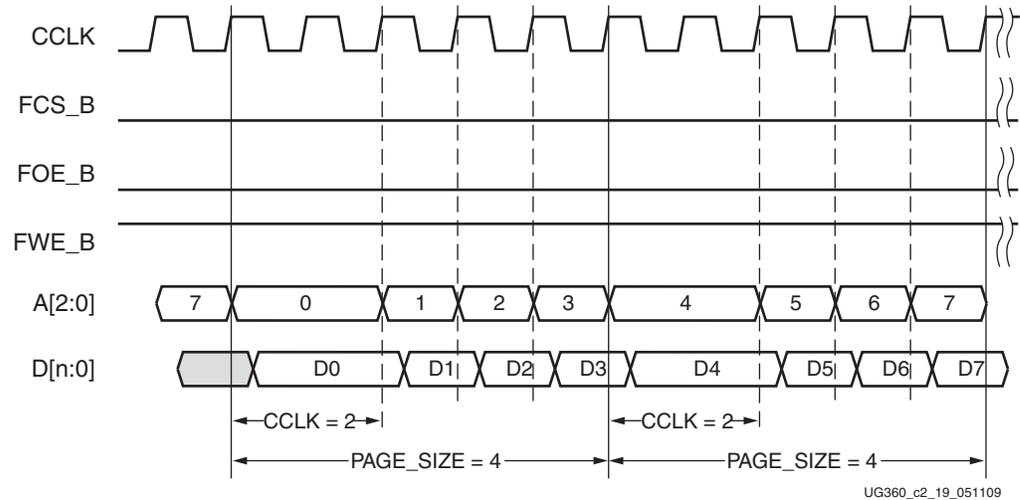

Figure 2-17: BPI-Up Waveforms (Page Size = 4 and First Access CCLK = 2)
The sequence of page-mode operation is controlled by the Virtex-6 FPGA bitstream (see Table 6-15). After an FPGA reset, the default page size is 1, the first access CCLK is 1, and the master CCLK is running at slowest default frequency. The COR0 register contains master CCLK frequency control bits (see Configuration Options Register 0 \(COR0\), page 120). The COR1 register contains BPI flash page mode control bits (see Configuration Options Register 1 \(COR1\), page 123). After the COR1 register is programmed, the BPI address timing switches at the page boundary as shown in Figure 2-17. When the SWITCH command is received, the master CCLK switches to a user-desired frequency, using it to load the rest of the configuration.
Notes related to Figure 2-17:
1. Figure 2-17 shows BPI-Up mode, a page size of 4, and a first access CCLK of 2.